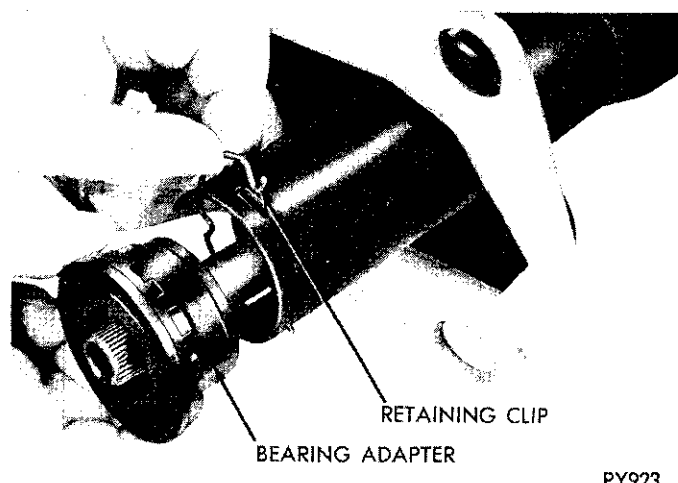

Fig. 10—Shaft Lower Bearing Adapter
(20) Remove shift tube retaining ring with screw driver. Remove thrust washer.
(21) Remove clip and bearing adapter from lower end of column jacket (Fig. 10).
(22) The column jacket with shift tube and bowl are serviced as an assembled unit.
(1) Install thrust washer and retaining ring by pulling bowl up to compress wave washer.
(2) Install support by aligning "V" in support with "V" notch in jacket. Insert screws through support into lock plate. Tighten screws to 60 inch-pounds torque.
(3) Align lower bearing adapter notches in jacket and push in lower end of column jacket. Shift tube should pilot in adapter at this time. Install clip (Fig. 10).